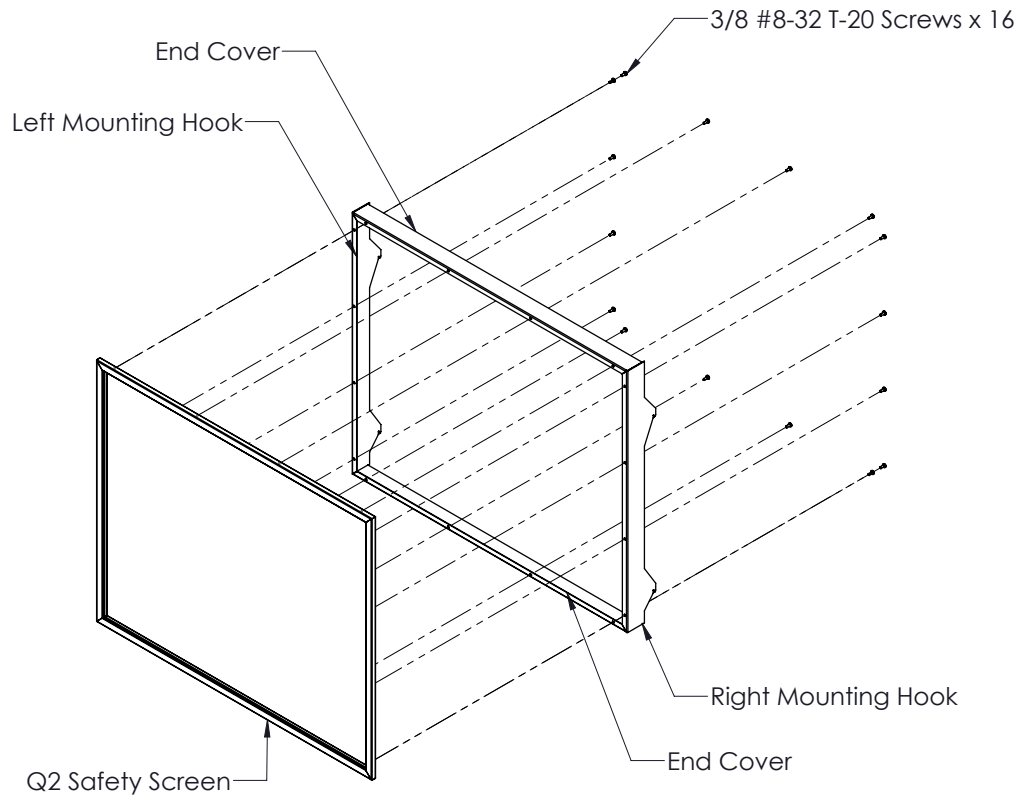

Figure 34. Screen Bracket Assembly
1. Attach the left, right, and end brackets onto the safety screen using a T20 screwdriver and the supplied sixteen (16) #8 T20 screws (see Figure 34). Do not over-tighten the screws or they might strip out of the screen frame.